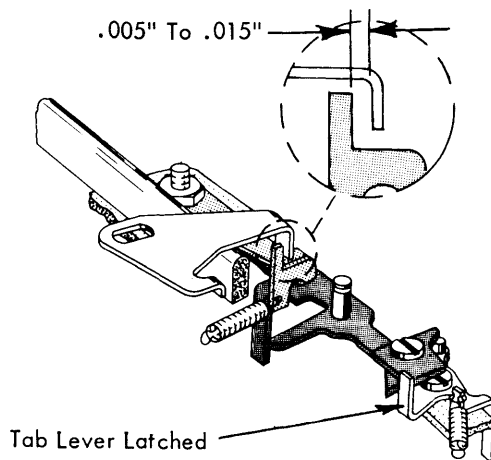

FIGURE 166. Tab Lever Overthrow Adjustment
5. Tab Lever Overthrow Stop - Adjust the stop forward or back so that $.005$ " to $.015$ " clearance exists between the lug of the tab lever trigger and the overthrow stop when the tab lever is latched to the rear (Fig. 166).